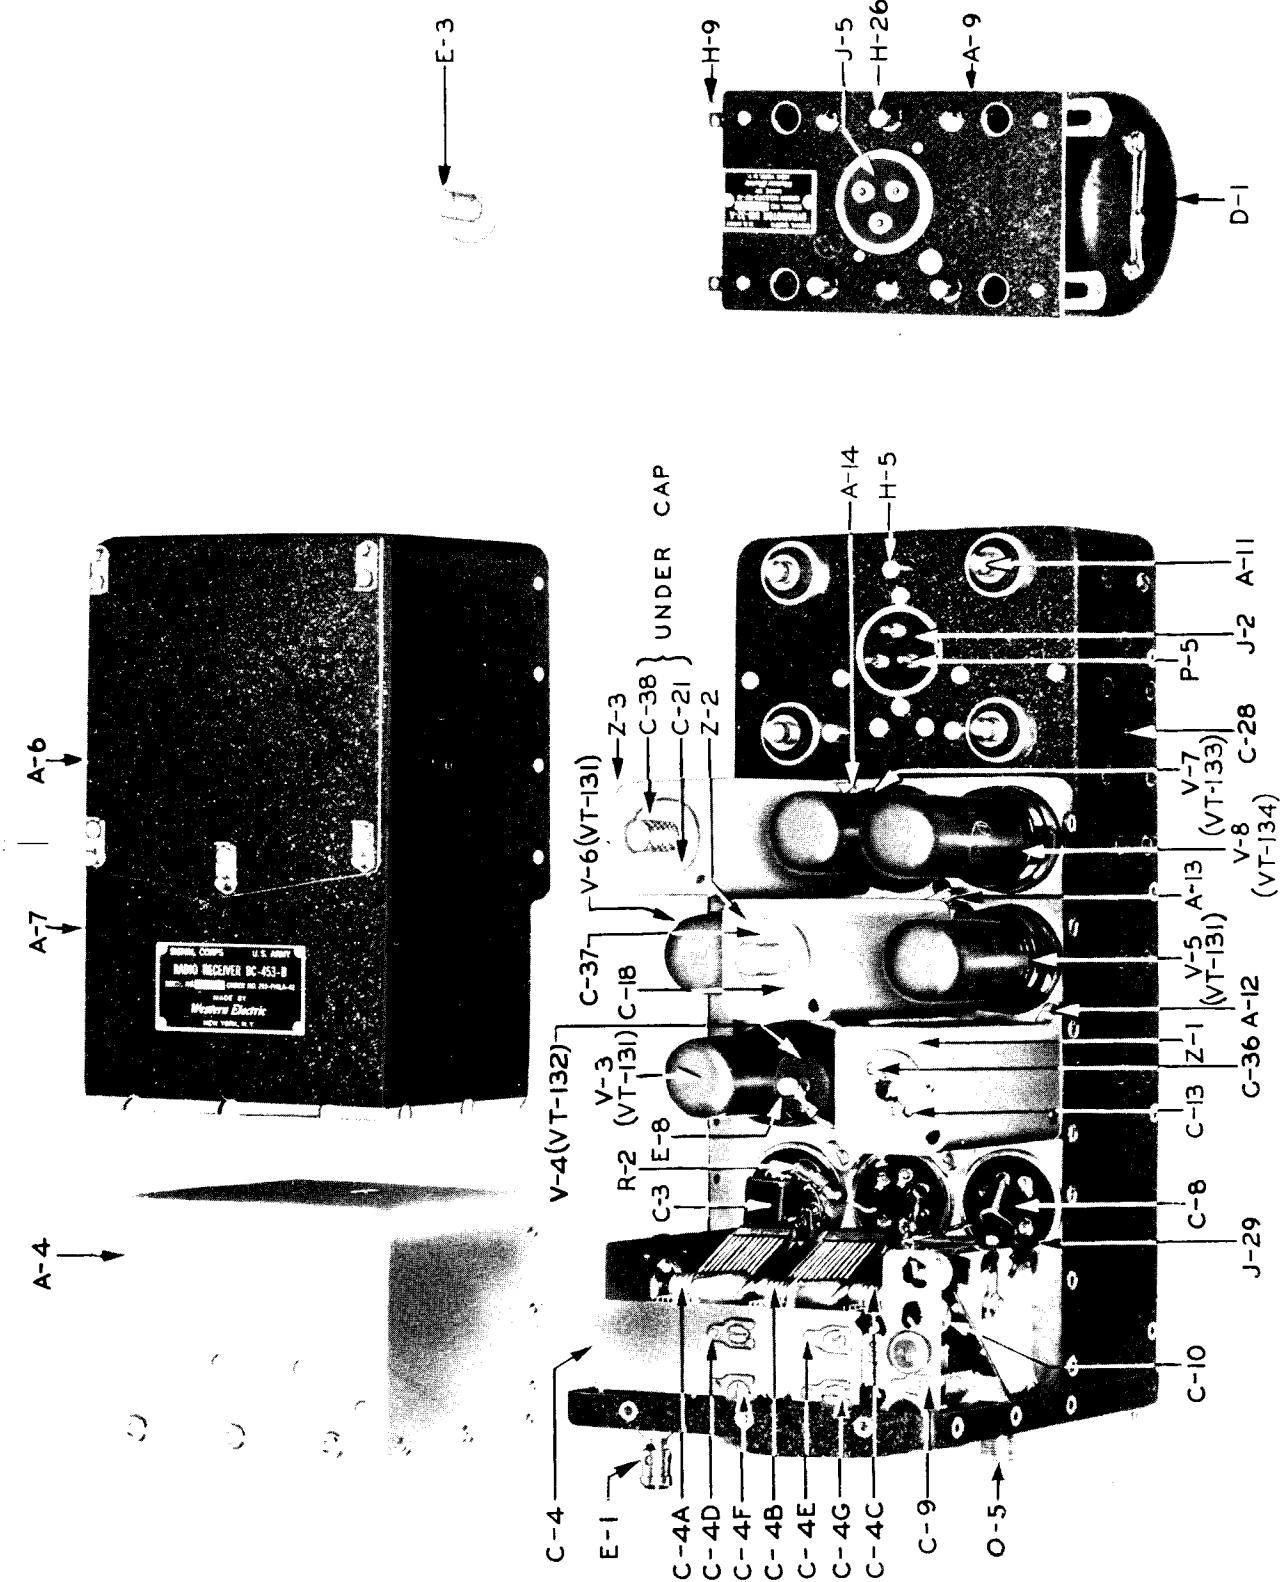

FIGURE 3.—TYPICAL RADIO RECEIVER, TOP INSIDE VIEW, AND BOTTOM VIEW OF DYNAMOTOR DM-32-A
- (6) L-5 of the r-f oscillator has a lower inductance than L-3 of the r-f amplifier circuit. This lower value of L-5, aided by the insertion of C-10 between L-5 and ground, results in an r-f oscillation which is higher in frequency than the signal frequency. By design, this difference is equal to the intermediate frequency throughout the tuning range of the receiver. L-4 and L-5 are the grid and plate coils of the r-f oscillator. C-4C, with trimmers C-4E and C-4G, and C-10 with trimmer C-9, together determine the tuning capacitance across L-5. C-8 is a grid blocking capacitor, and R-3 is a grid resistor. R-6 is a series resistor in the plate circuit which not only serves to drop the dynamotor voltage to the proper value for the r-f oscillator, but also acts as an r-f filter in conjunction with C-10 to isolate this circuit from others connected to the high-voltage supply line. C-11 is a compensating capacitor connected across the r-f oscillator tuning capacitor to reduce the frequency drift during the first half hour of operation.
- (7) The intermediate frequency (i-f) part of these receivers consists of three i-f coupling units, Z-1, Z-2 and Z-3 (Figure 3), following the V-4 (Tube VT-132) mixer tube, V-5 (Tube VT-131) first i-f amplifier tube and the V-6 (Tube VT-131) second i-f amplifier tube, respectively. In Radio Receivers BC-453-A (or -B) and BC-454-A (or -B), each i-f coupling unit contains two tuned circuits which are magnetically coupled. Z-1 which is representative of the three coupling units consists of coils